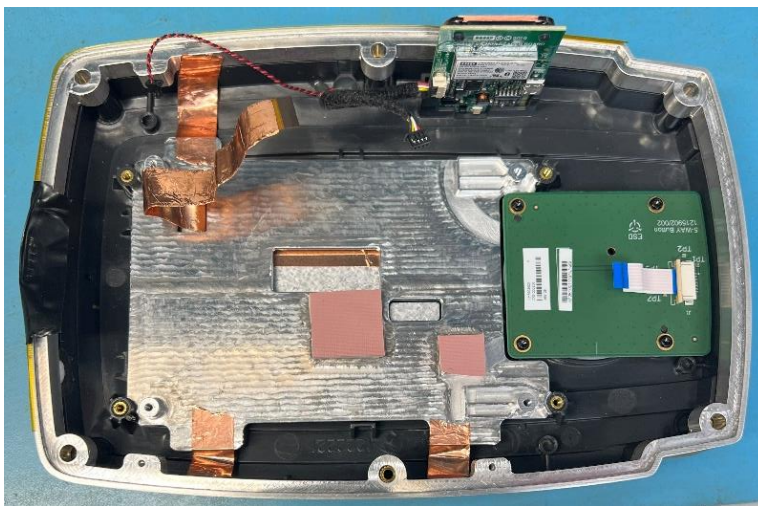

Figure 3: Aluminum border with Aluminum plate.
3. Aluminum border along with the aluminum plate. (Fig. 3)